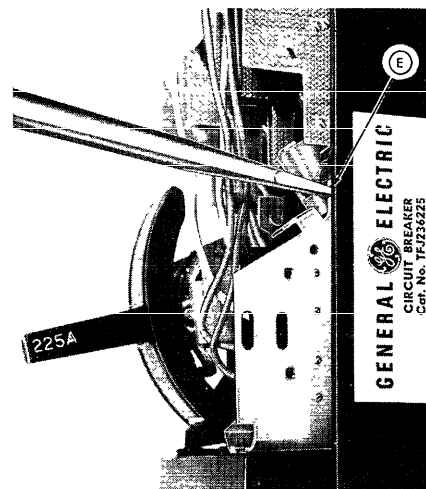

Fig. 4
5. Top of metal notch tab E (Fig. 4) should be flush with top edge of breaker base. Insert screw driver in tab E, and bend tab firmly toward line end of breaker, securing a tight fit for tab E.